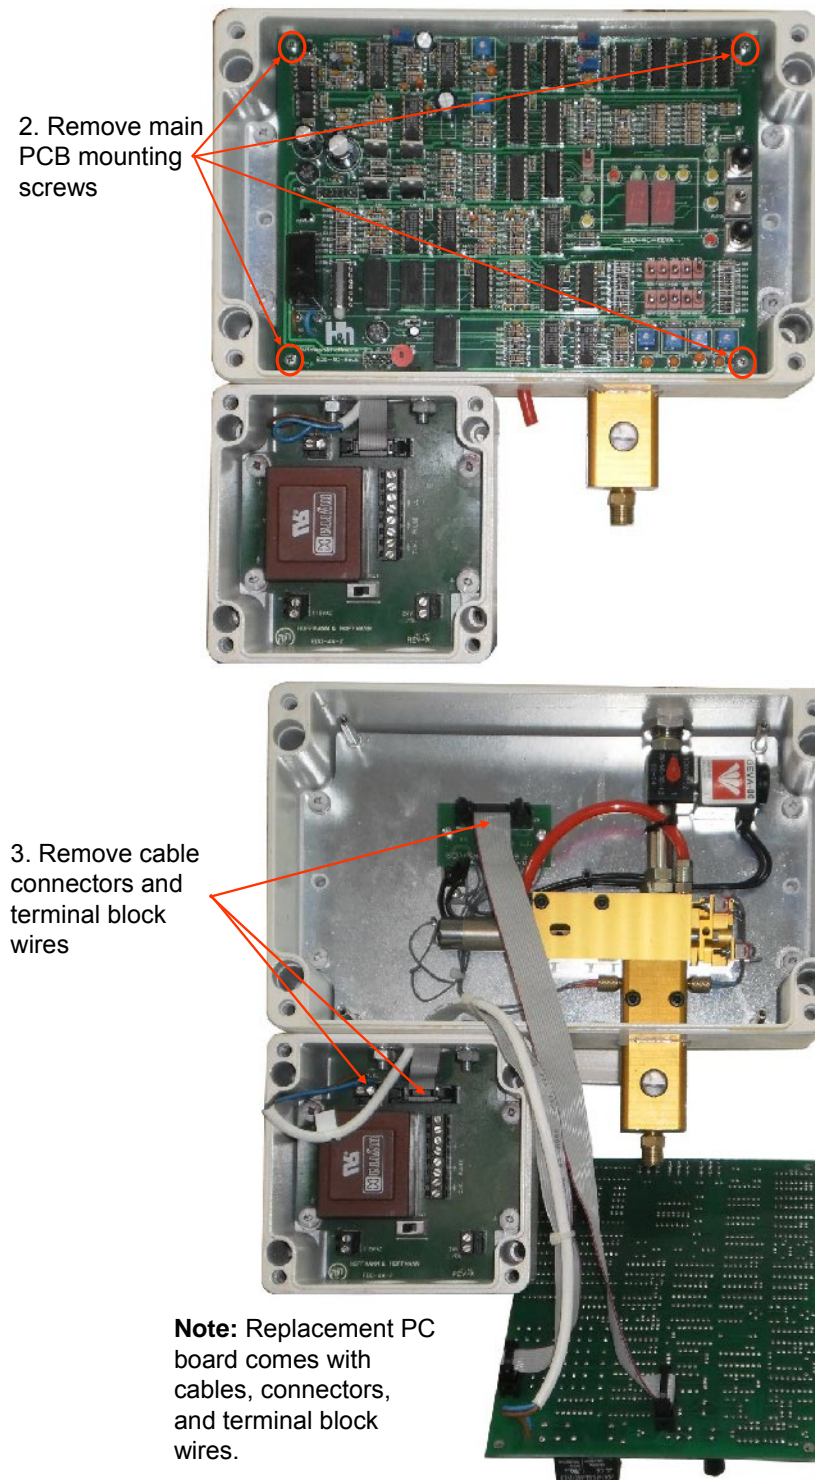

Figure 13: Dripmaster PC board replacement
11. Remove both covers to gain access to the PC boards, and then follow directions shown in Figure 13 below.